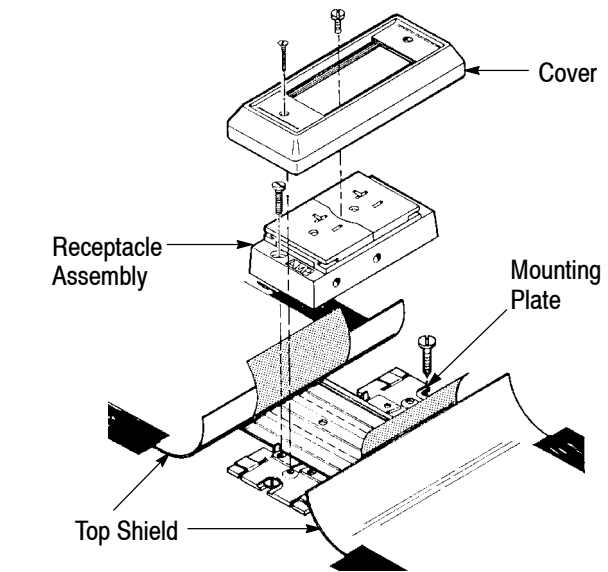

Figure 10
1. Remove the attaching hardware securing the cover to the mounting plate, then remove the cover. Refer to Figure 10.
- Removed Step 7 and previous Figure 10